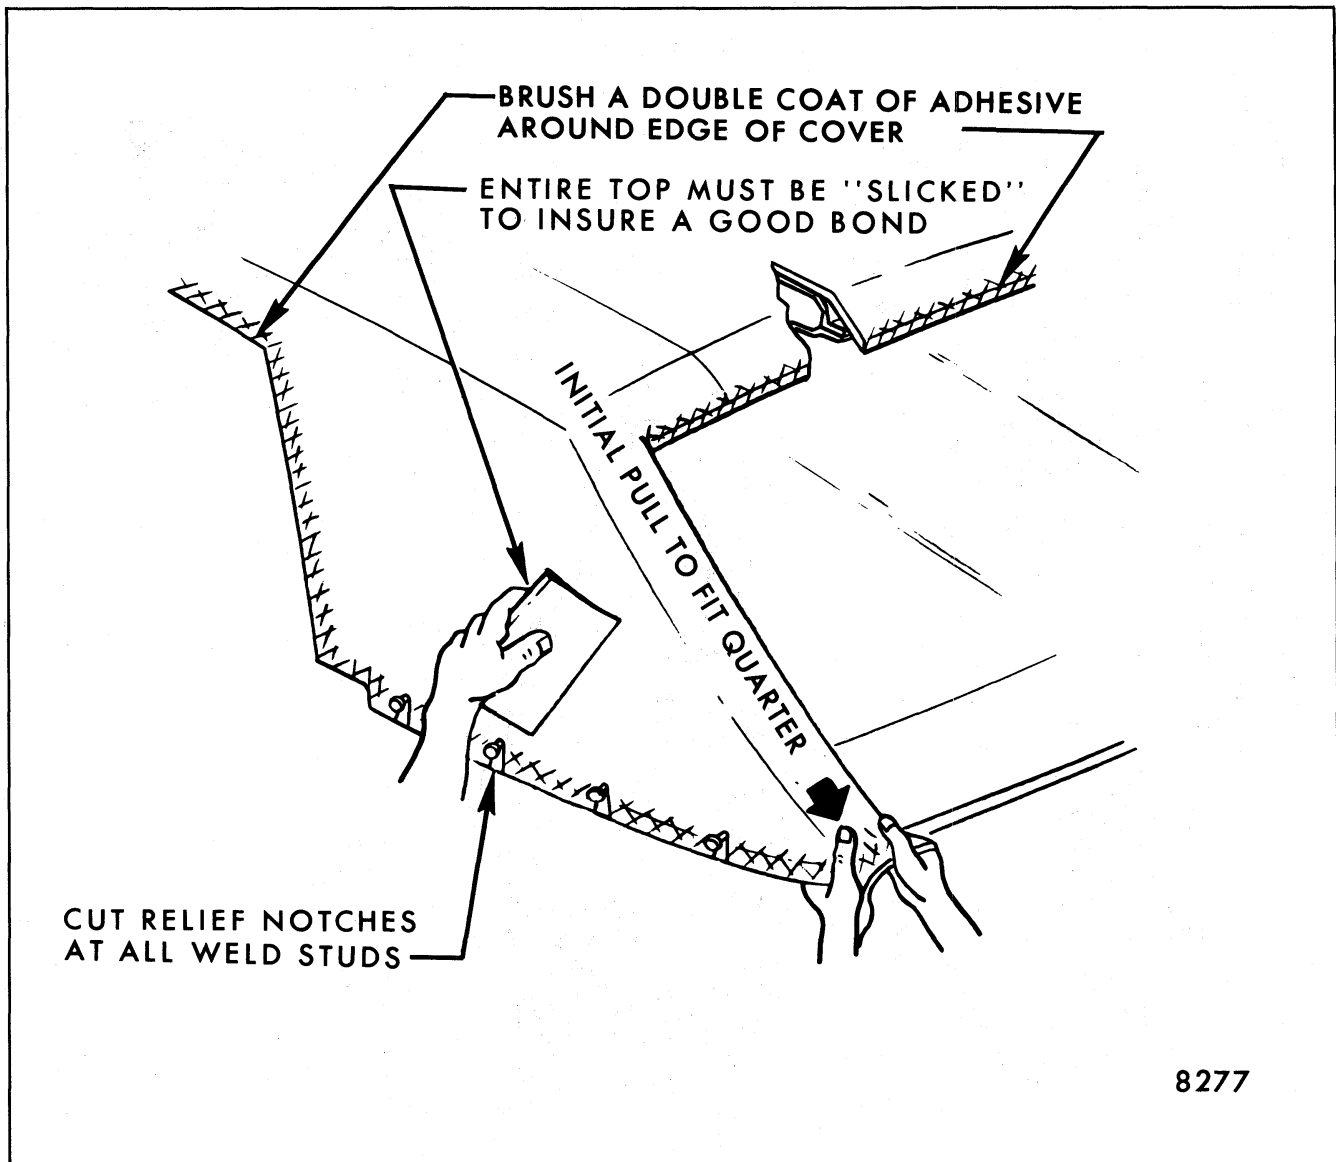

Fig. 8-42-Cementing Cover to Quarter Upper
8. On all styles cement cover to quarter upper area by pulling cover down and rearward. When operation is completed, cover should be free of all wrinkles and draws in this area (Fig. 8-42).